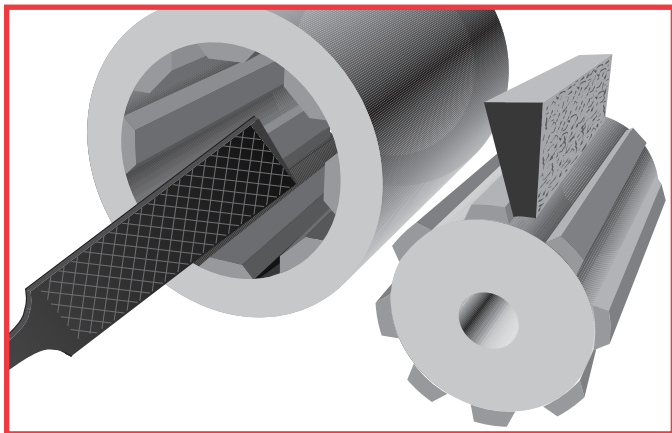

Figure 25. File the socket to a 45° angle.
1. **Remove the spline** shaft from the socket and chamfer the edges of the sockets to a 45° angle using a file. (See figure 25)